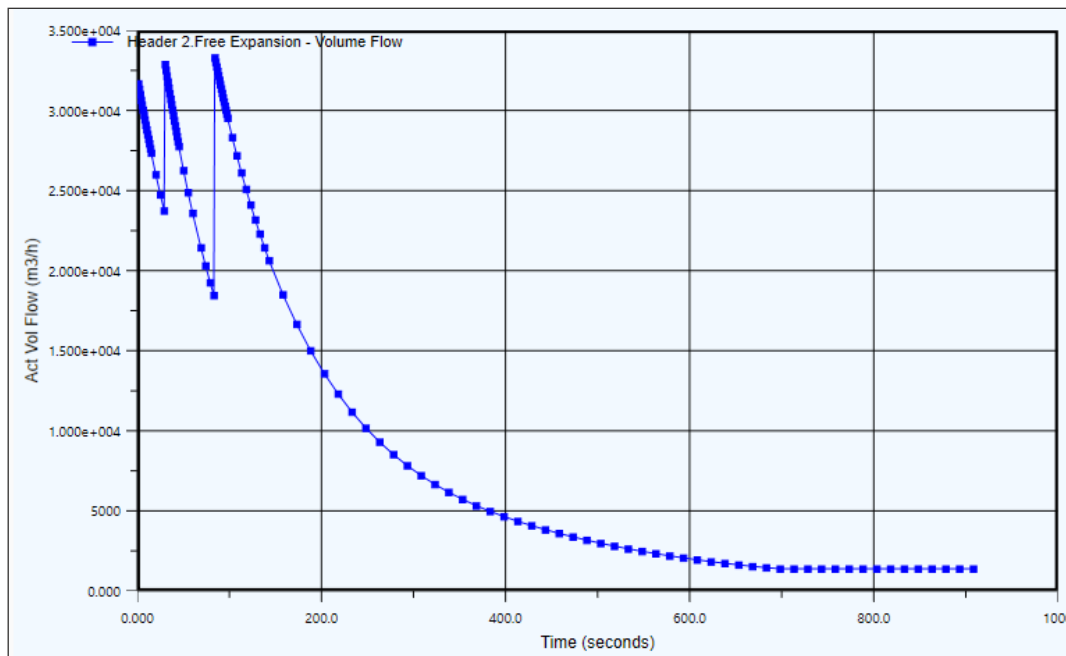

Figure 17:
20. Run the simulation. After it solves, move to the **Result Summary** tab and analyze the results (*Figure 17*).